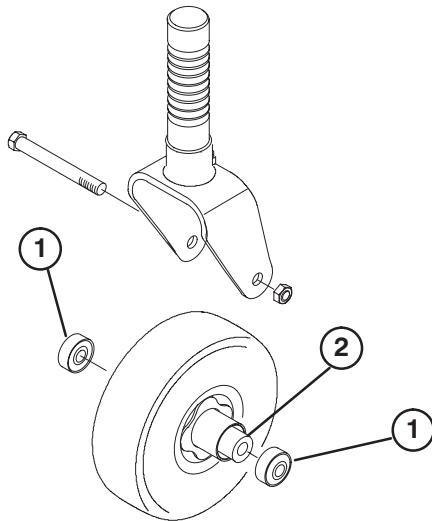

Figure 30
2. Remove bearing from wheel hub and allow spacer to fall out (Fig. 30). Remove bearing from opposite side of wheel hub.
4. To assemble the castor wheel, push bearing into wheel hub. Slide spacer into wheel hub. Push other bearing into open end of wheel hub to captivate the spacer inside the wheel hub (Fig. 30).